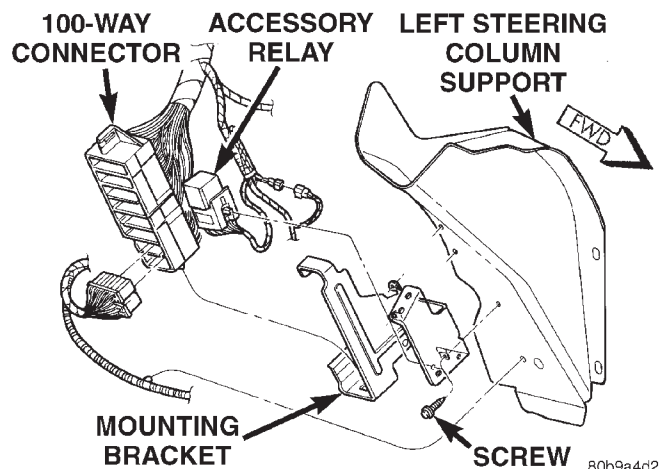

Fig. 14 Accessory Relay Remove/Install
- (1) Disconnect and isolate the battery negative cable.
- (2) Reach up under the instrument panel outboard of the steering column to access the accessory relay and the accessory relay wire harness connector, which is secured to the 100-way wire harness connector mounting bracket (Fig. 14).